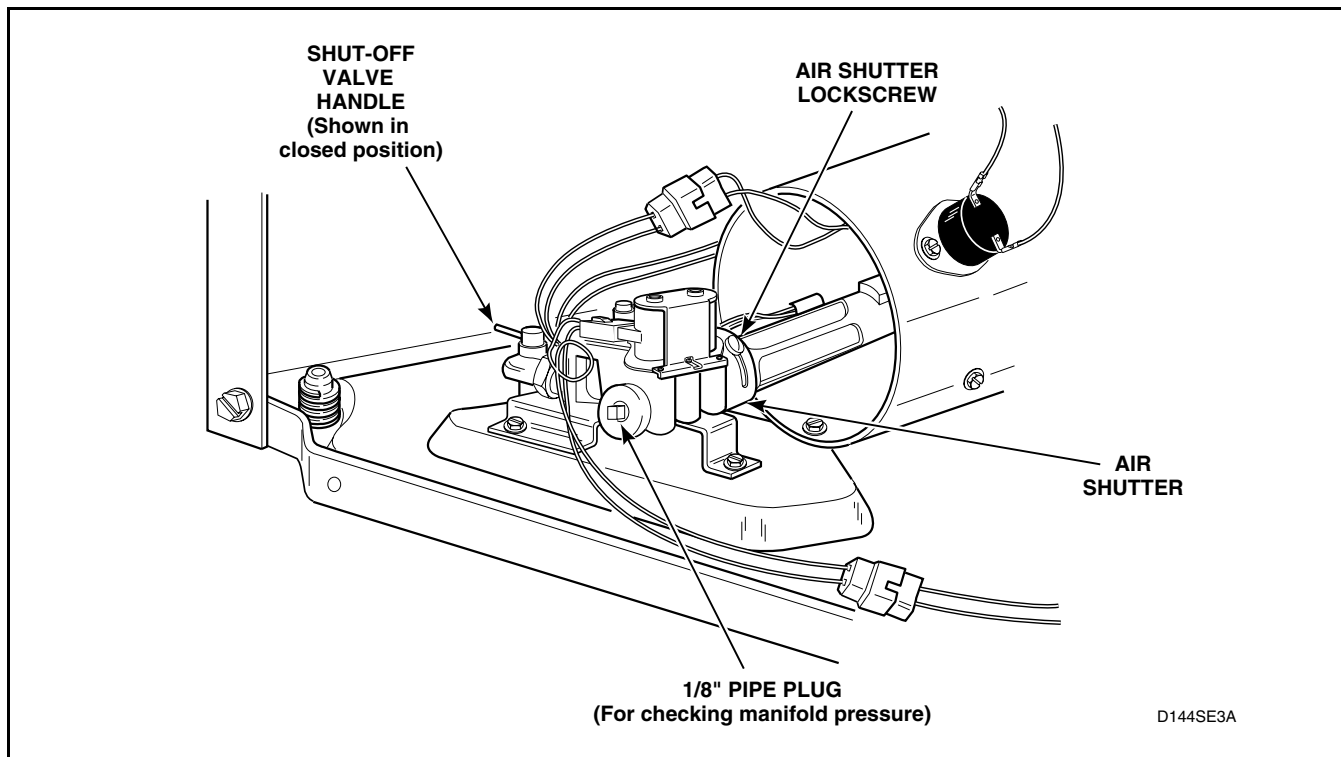

Figure 60
- (1) Metered Models – Place coins in slide and carefully push slide in as far as possible
- (2) Nonmetered Models – set timer at “50” minutes.
- e. Allow the dryer to operate for approximately five minutes, then loosen the air shutter lock screw. Refer to *Figure 60*.
- g. After proper flame is obtained, tighten air shutter lock screw securely. Refer to *Figure 60*.